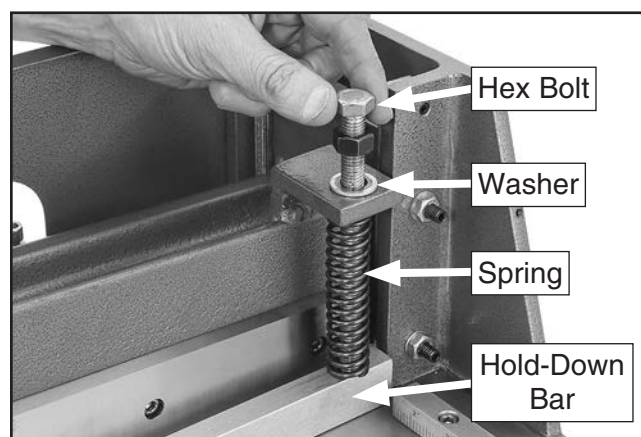

Figure 15. Removing hold-down bar.
3. Unscrew hex bolt from hold-down bar, then remove spring, flat washer, and hold-down bar (see **Figure 15**).